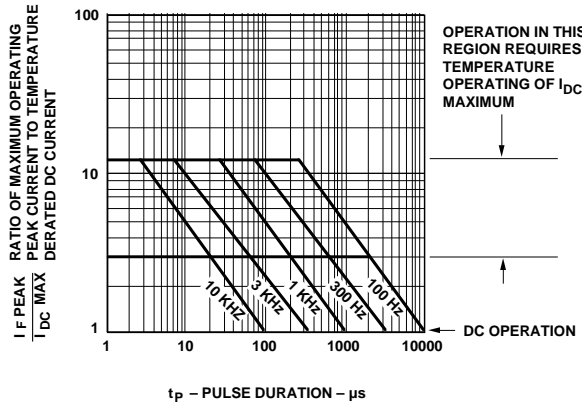

Figure 8. Allowable Peak Current vs. Pulse Duration - Green.
- See Figure 8 to establish pulsed conditions.